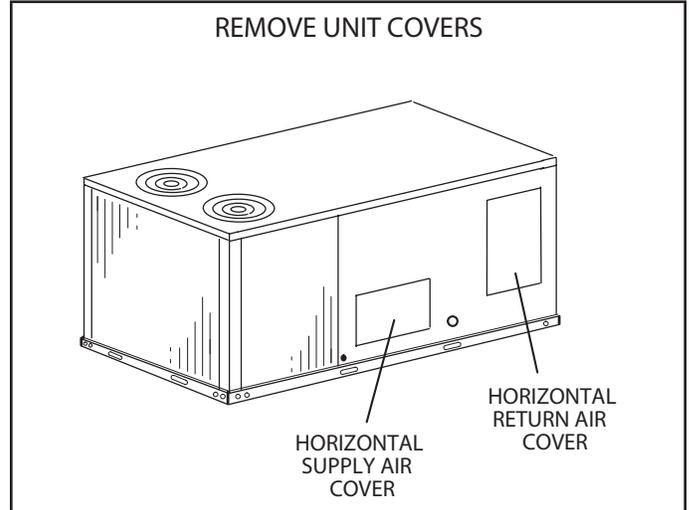

FIGURE 1
- 2 - Remove rear unit panels. See FIGURE 1.
- 11 -When an outdoor air accessory is installed, secure the return air duct on the end of the unit and replace the rear horizontal return air cover. See FIGURE 1.